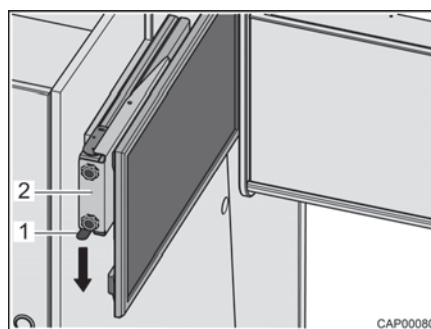

Fig. 29 Pull-out with flat screen
- Press catch spring (Fig. 29,1) downwards and pull pull-out (Fig. 29,2) with flat screen out horizontally towards the centre of the vehicle.
- Push the pull-out (Fig. 29,2) with flat screen horizontally as far as it will go. The catch spring (Fig. 29,1) engages audibly.